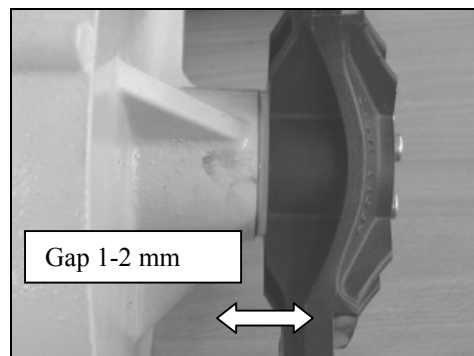

Fig. 103
- CAUTION! On fitting the clamping sleeve and wheel hub, allow a clearance of about 1 – 2 mm (Fig. 103)